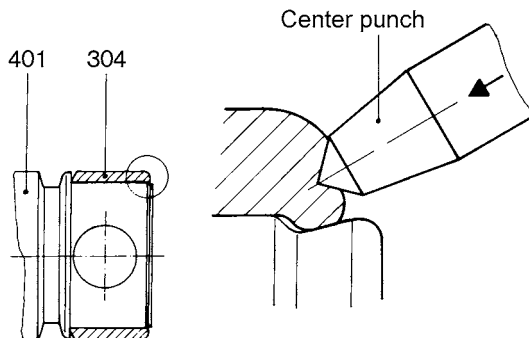

Figure 11: Securing the joint collar
- Slide the joint clamps (306), the joint collar (308) and the joint collar (304) onto the shaft of the joint shaft (307).
- Slide the joint shaft (307) into the head of the rotor (401).
- Slide the joint bolt (301) into the joint bush (302) and completely drive in the sleeves for the joint bolts (303).
- Emerize the joint collar (304) until smooth at the outer diameter if required and pull onto the head of the rotor (401).
- After pulling on the joint collar (304), secure this against axial shifting on the head of the rotor (401).
ATTENTION To do so, drive the end of the joint collar (304) with a puncher blow into the groove at the head of the rotor (401) (see figure 11).